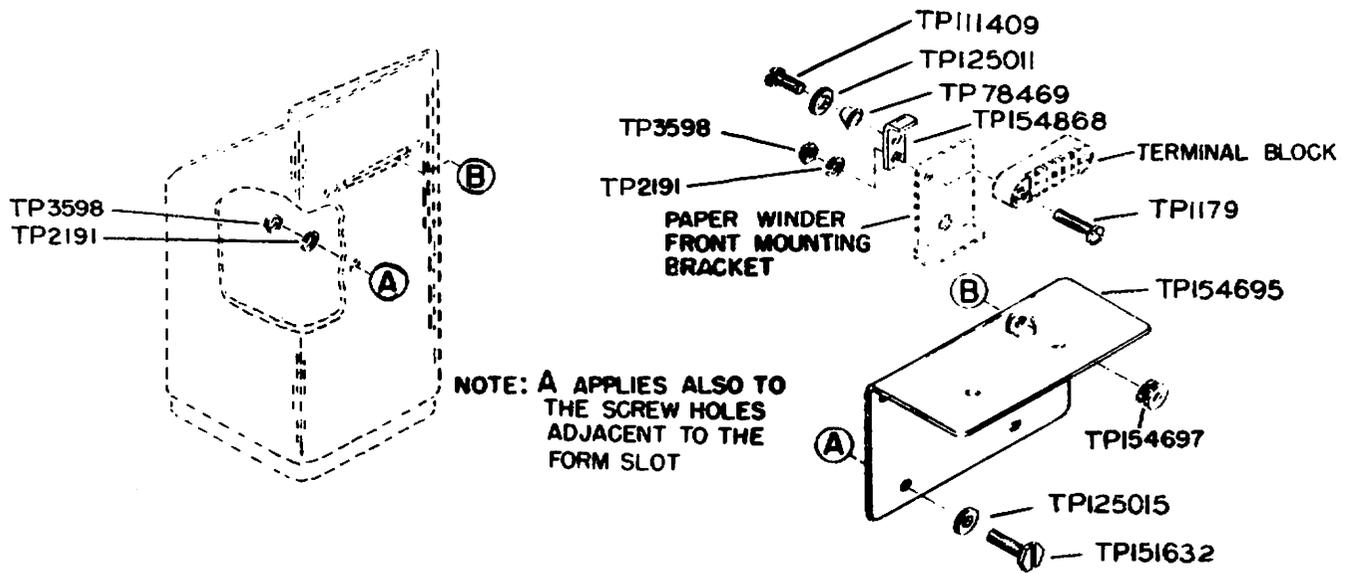

Figure 2 - TP153901 Modification Kit
2.04 A 15 paper winder can be mounted on a 28 teletypewriter cabinet by the use of the TP153901 modification kit which contains the necessary mounting parts shown in Figure 2.
(3) Remove and dispose of the two TP103120 retainers and the two TP89515 screws located in the rear panel of the cabinet, just above the electrical service unit.
(4) Mount the TP154695 bracket on the back of the cabinet, using six each of the TP151632 screws, TP125015 flat washers, TP2191 lockwashers, and TP3598 nuts that are furnished. (See Figure 2.)
(5) Remove the paper-winder cover by removing the screw from the rear of the paper winder and backing off the other two screws. (The cover has two slotted mounting holes.)
(6) Viewing the paper winder from the rear, replace the left-hand mounting screw of the terminal block with the TP1179 screw that is furnished. Mount the TP154868 plate, using the remaining TP2191 lockwasher and TP3598 nut. Secure the TP78469 rubber foot
to the TP154868 plate, using the TP11409 screw and TP125011 flat washer. (See Figure 2.)